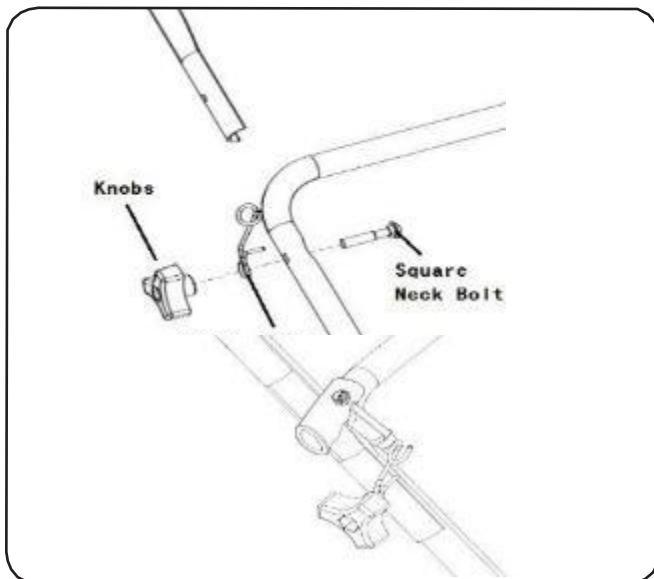

Figure 3-10
**NOTE:** Use the hardware in Group 5 and refer to Figure 3-10 to complete the following steps.
1. Attach the eye bolt to the upper handle and loosely thread the lock nut to secure it. Do NOT tighten. See Figure 3-10.
3. Loop the rope through the eye bolt. See Figure 3-10.